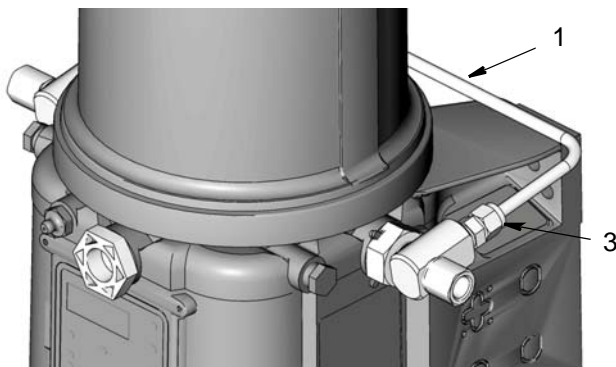
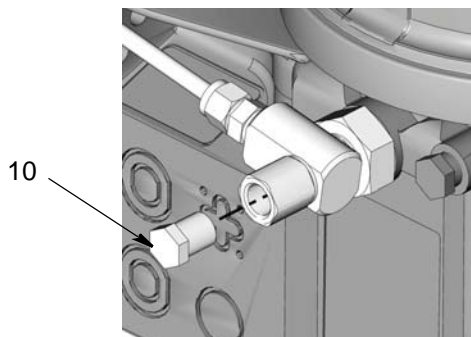
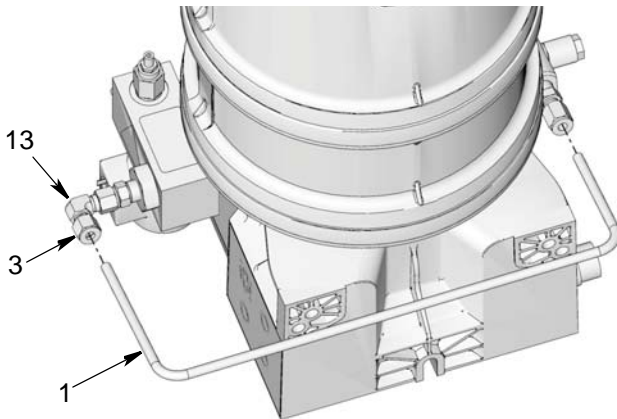

FIG. 5
FIG. 6
FIG. 10
10. Install tube (1) between the two banjo fittings. It may be necessary to loosen the banjo fitting to install this tube (FIG. 5).
11. Hand tighten tube nuts (3), securely. Then tighten another 1-1/4 turns (FIG. 5).
12. Tighten banjo bolts (6) to 35 ft. pounds (45.7 N•m) at each location.
13. Apply thread sealant to threads of plug (10). Install plug in unused outlet location (FIG. 6).
- Hand tighten tube nuts (3), securely. Then tighten another 1-1/4 turns (FIG. 10).
- Tighten banjo bolt (6) to 35 ft. pounds (45.7 N•m) at each location.
- Apply thread sealant to threads of plug (10). Install plug in unused outlet location (FIG. 6).
15. Apply thread sealant to threads of plug (10). Install plugs in unused outlet locations (FIG. 6).